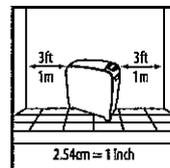

Fig. 3
- Select a firm, level and flat location. For proper airflow, locate the unit at least three feet (1 meter) from the wall or furniture (Fig. 3).